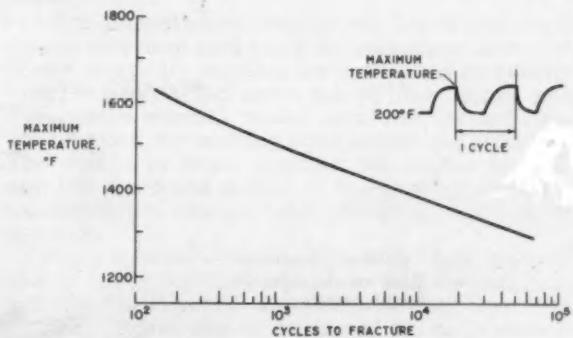

Fig. 3—Effect of temperature on thermal fatigue.
**Reliability**—Failures of hot parts of the turbojet engine contribute in a large measure to the lack of engine reliability. Thus, it would appear that a substantial improvement in the life and reliability of the engine would be achieved if the life of the hot parts could be improved. One of the biggest causes of difficulty, the nozzle diaphragm, is not a highly stressed part and that the damage appears to result primarily from warpage or thermal fatigue. Fig. 3 shows the effect of temperature on the thermal fatigue of two samples of high-temperature materials. In the case of inconel, reducing the temperature from 1600 F to 1200 F improves the life from 170 cycles to greater than 100,000 cycles. From this it is clear that reducing the temperature will greatly improve the thermal fatigue life of hot parts. Temperature has a somewhat similar effect upon other important properties of material. The fatigue-stress life and the stress-rupture life of materials are also tremendously improved by a reduction in temperature. Lowering the temperature will also make possible the selection of a wider class of materials for use in engine construction. At the lower temperatures higher strength materials and materials having other desirable properties become usable.